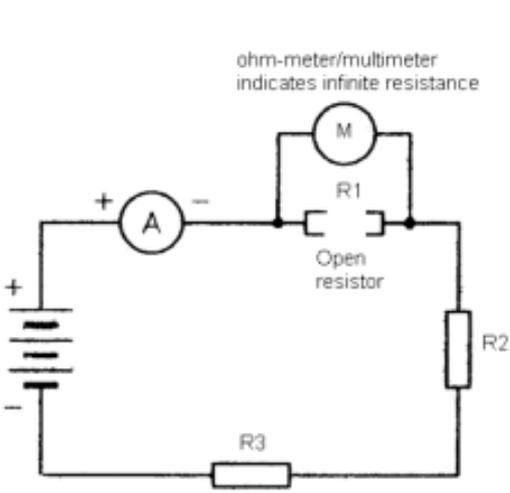

Fig.7.3 - Open circuit test
**Open circuit test and Short circuit test:** Multimeter can be used for this test. For this, multimeter should be set in resistance mode of measurement. To check the existence of any open circuit or short circuit between any two points in the wiring circuit, the electrical supply to the circuit should be switched off first. Then put the multimeter probes between the two testing points in the circuit. If multimeter reads '∞' ohm, it indicates open circuit. If multimeter reads '0' ohm, it indicates short circuit. This is shown in Fig.7.3 and 7.4.